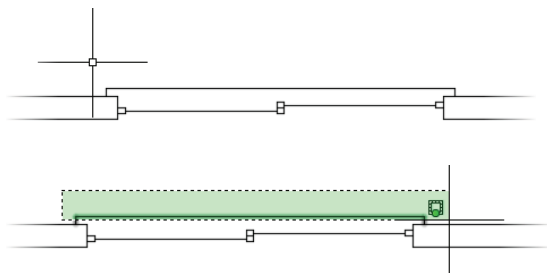

FIGURE 6.19: Starting the crossing selection window (top) and completing it (bottom)
- a. Hold the crosshair cursor above and to the right of the upper-right corner of the sliding glass door's threshold—still inside the perimeter of the deck—as shown on the top of Figure 6.19.
NOTE Figure 6.19 has been rotated 90° from the way it appears in your drawing.
- c.** Move the cursor down and to the left until you have made a tall, thin crossing window that completely encloses the right edge of the threshold and is crossed on its left edge by the short, horizontal connecting lines, as shown on the bottom of Figure 6.19.